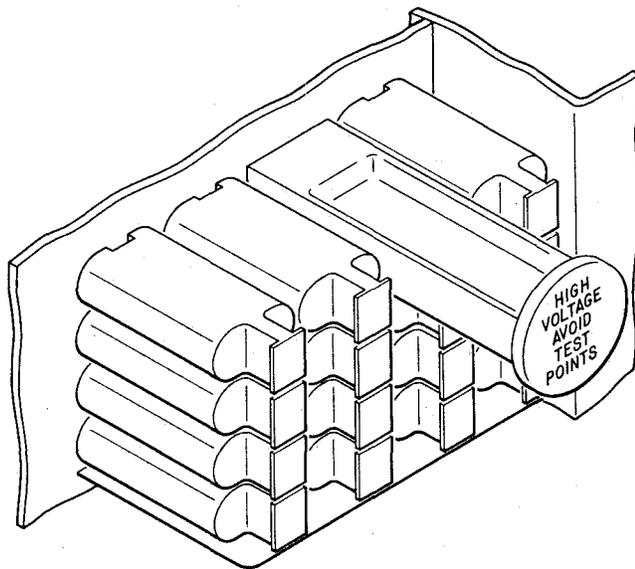

Fig. 11—E Warning Marker
- (e) **Protector Frames Equipped with 302- and 303-Type Connectors:** Remove the protector unit from its socket and insert an E warning marker in place of the protector as shown in Fig. 11. The marker is red plastic with white lettering and is equipped with prongs for socket mounting.